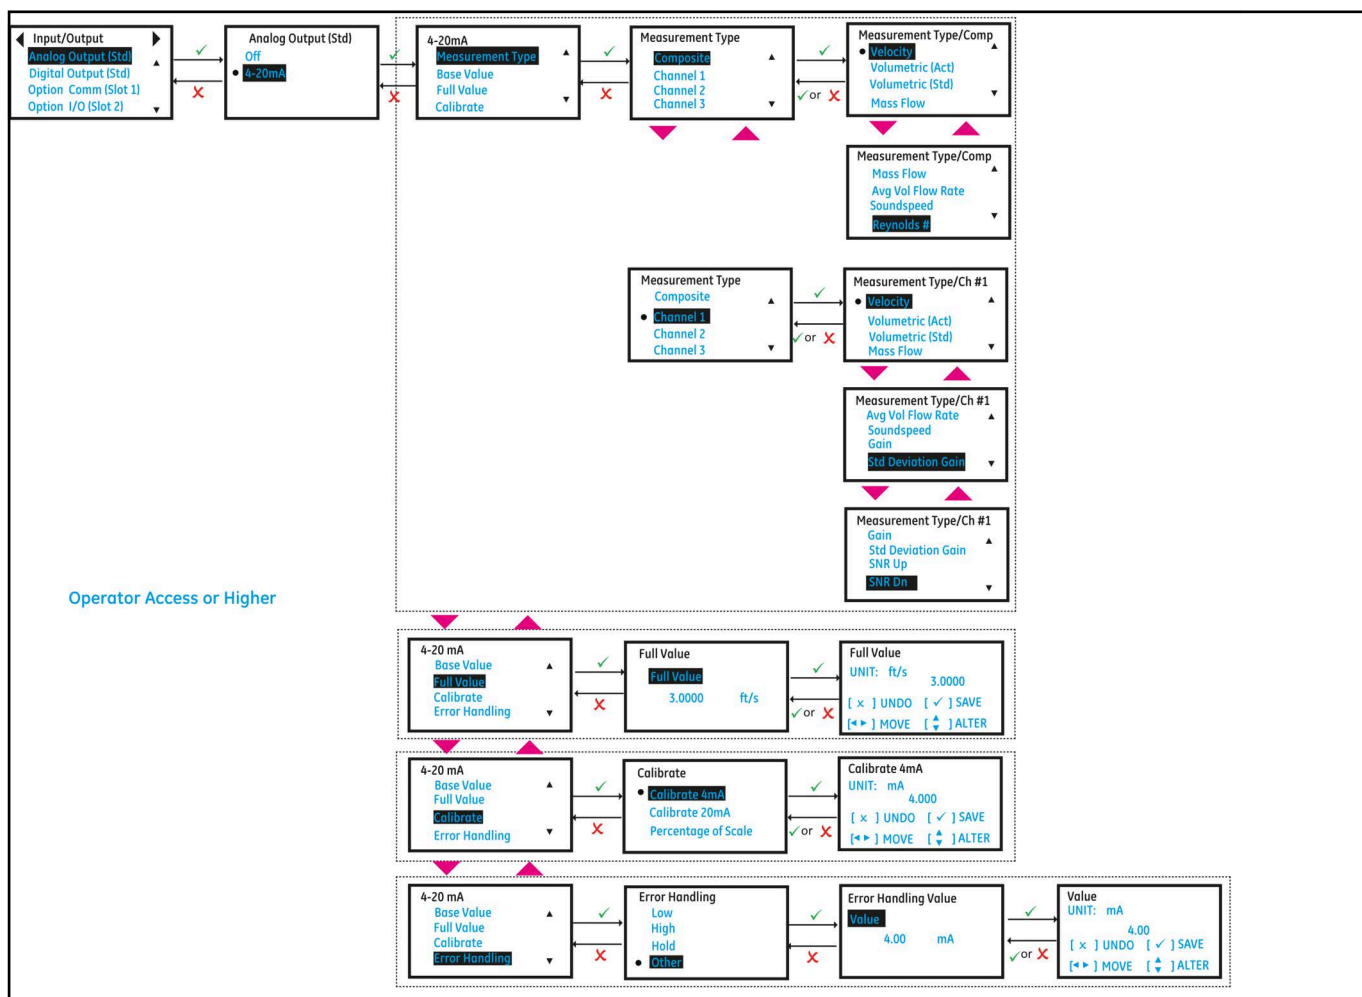
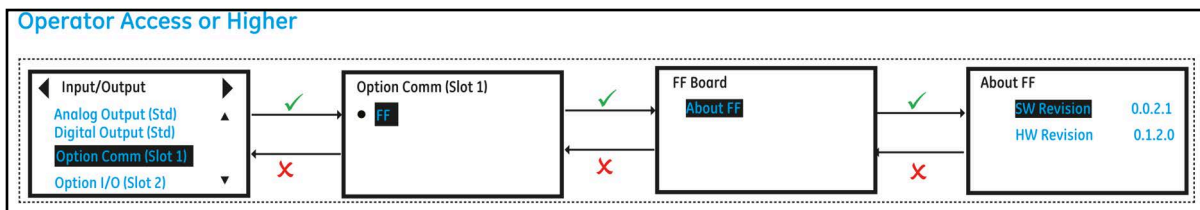

Figure 31: Setting up Analog Output
**Figure 35: Option Slot-1 Configured as HART**
3. If you are connecting an Analog Output, choose 4-20mA option. The *Figure 31* below, shows the options available.
2. You can set **Analog Output** with HART option. Refer to *Figure 35* and *Figure 31*.